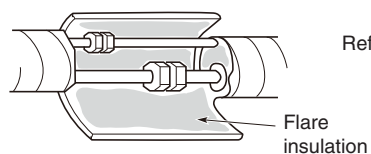
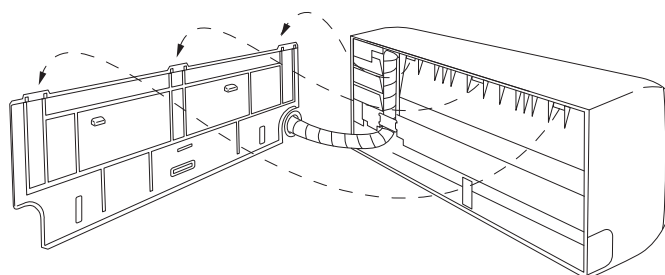

Fig. 1-79
Fig. 1-78
- (2) Push the wiring, refrigerant tubing, and drain hose through the hole in the wall. Adjust the indoor unit so it is securely seated on the rear panel. (Fig. 1-78)
- (3) Carefully bend the tubing (if necessary) to run along the wall in the direction of the outdoor unit and then tape as far as the fittings. The drain hose should come straight down the wall to a point where water runoff won't stain the wall.
- (4) Connect the refrigerant tubing to the outdoor unit. (After performing a leak test on the connecting part, insulate it with the tubing insulation. (Fig. 1-79)).